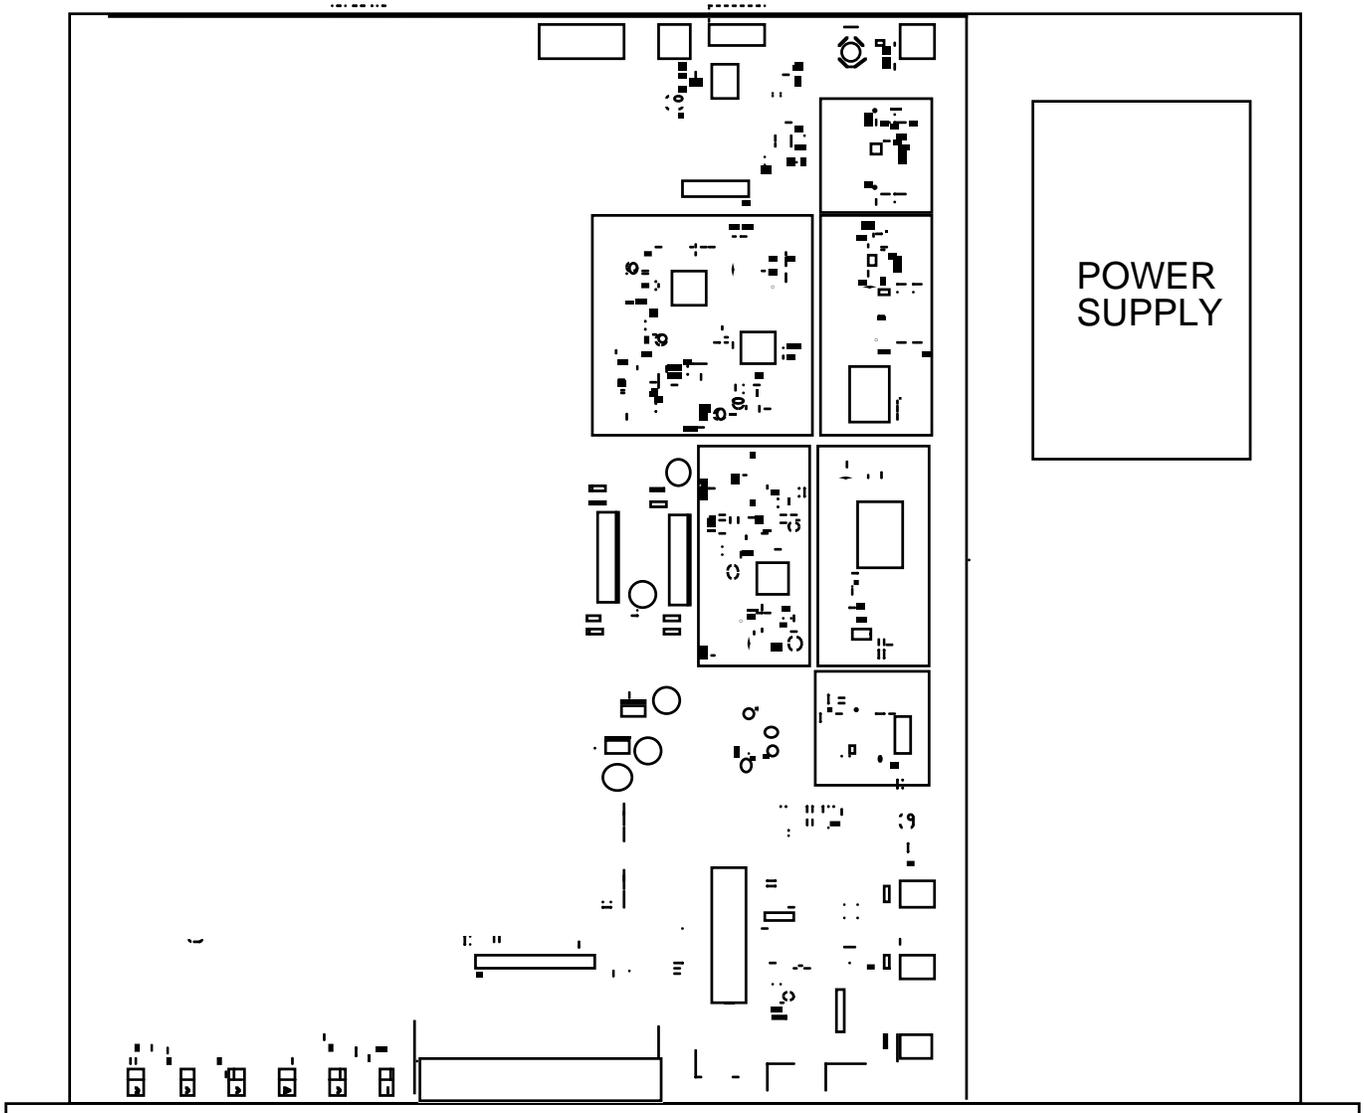

FIGURE 2.1 2016-02-720-400 Mechanical Assembly
The 2016-02-720-400 consists of one RF/Controller PCB housed in a 1 RU (1 3/4 inch high) by 16 inch deep chassis. A switching, ± 12 , +24, +5 VDC power supply provides power for the assemblies. The 2016-02-720-400 can be secured to a rack using the 4 holes on the front panel. Figure 2.1 shows how the 2016-02-720-400 is assembled.
7. Option -L only - To insert LNB +24 VDC on the RF center pin install 0.5A fast blo fuse in F1 and check that DS8 lights yellow (Figure 2.1)